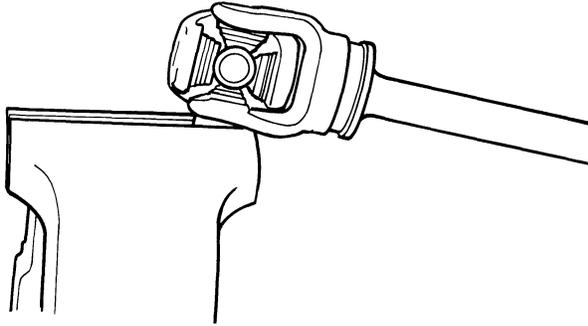

Figure 8
- Place the protruding portion of the bearing cup in the vise and just snug the jaws so the bearing cup will not be distorted. Use a prying motion on the yoke to work the bearing cup out of the yoke as shown in Figure 8.